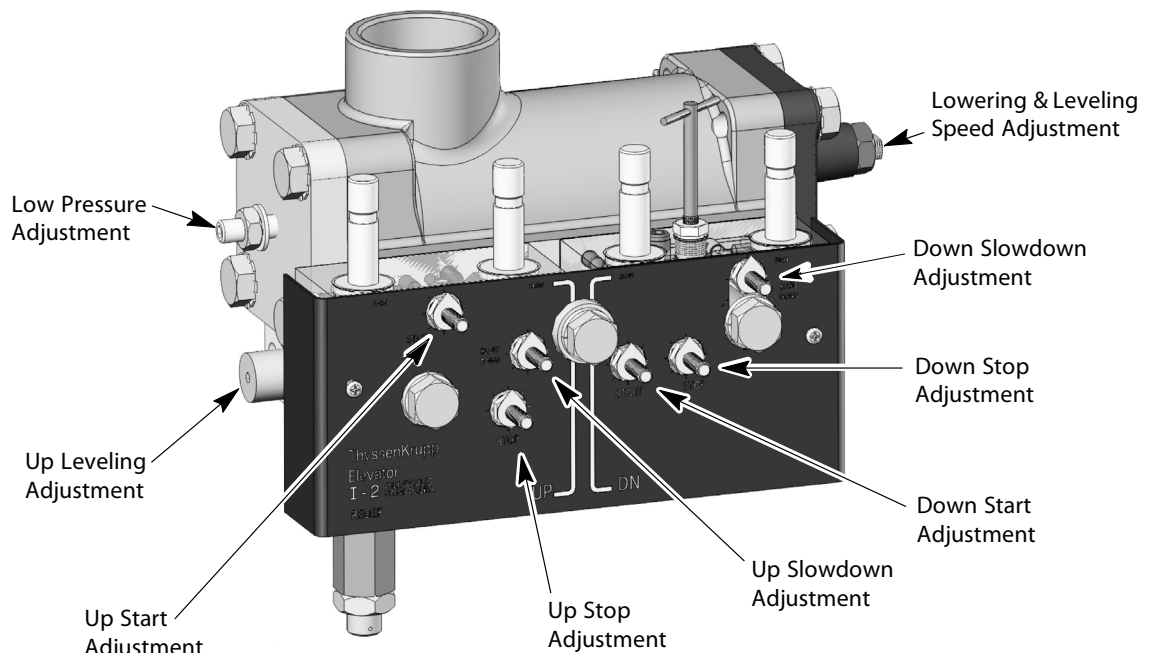

Figure 2 - Low Pressure Setting
1. Turn the low pressure adjustment screw OUT 1 3/4" beyond the cover plate. See Figure 2.
4. Turn the up leveling adjustment screw IN four (4) turns.
1. Turn the up start, up stop, and up slowdown adjustment needles IN to the fully closed position. See Figure 2.
2. Turn the up start needle OUT nine (9) turns.
3. Turn the up stop needle OUT three (3) turns.